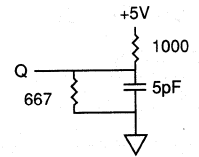

Fig. 2 OUTPUT LOAD EQUIVALENT
6. ^tHZCS, ^tHZOE, and ^tHZWE are specified with CL = 5pF as in Fig. 2. Transition is measured ±500mV from steady state voltage.